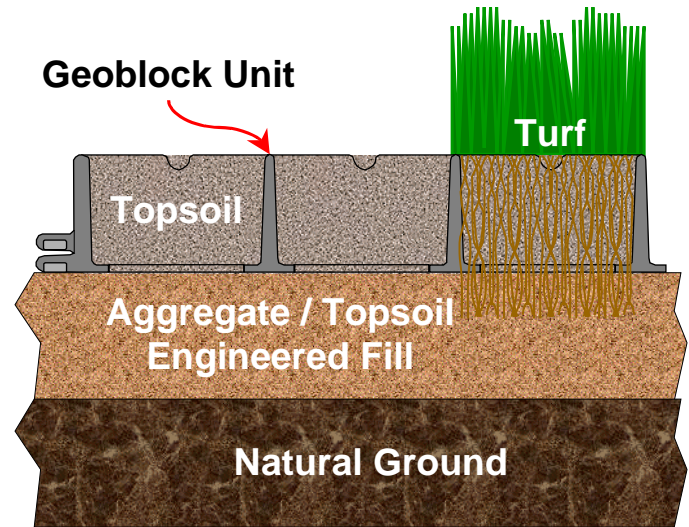

Figure 1 The Geoblock Porous Pavement System Components
The Geoblock Porous Pavement System provides vehicular and pedestrian load support over grass areas while protecting the grass from the harmful effects of the traffic. The system has four major components once fully developed (see Figure 1). The components are (1) the Geoblock unit, (2) the base support soil, (3) the selected topsoil infill and (4) the selected vegetation. Both the Geoblock unit and the base support soil work together to support the imposed loading. Both the Geoblock unit and the topsoil contribute to the vegetation support. Other components may include additional geosynthetic reinforcement and topsoil additives to enhance vegetative growth. A review of the four major components follows.